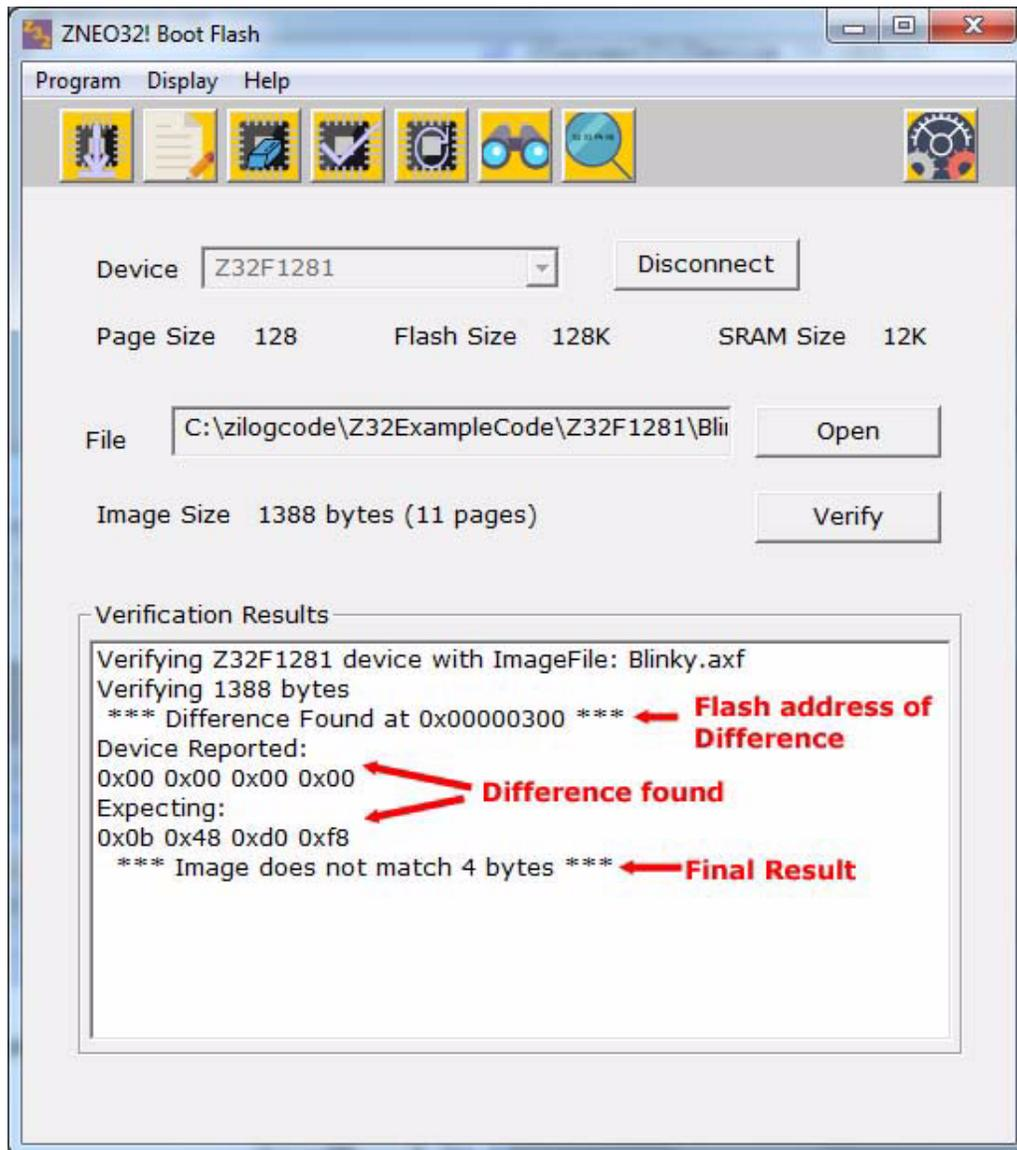

Figure 24. Result Details
6. The result details appear in the status box, as shown in Figure 24.